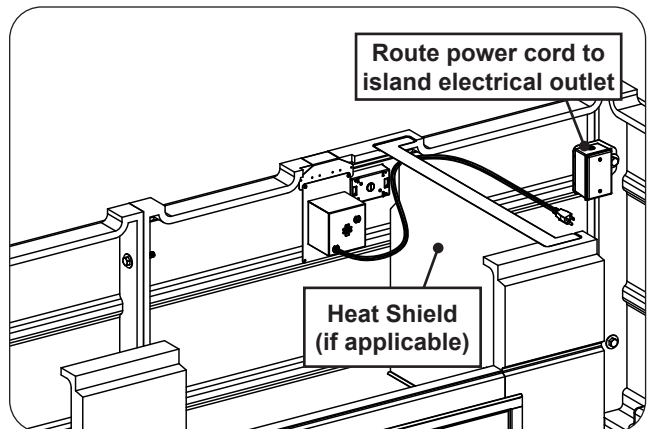

Fig. 13-3 Route power supply box wire
3. Once the box is installed route the power cord behind the heat shield (if applicable) and toward the electrical outlet (for future grill/griddle installation). See Fig 13-3.